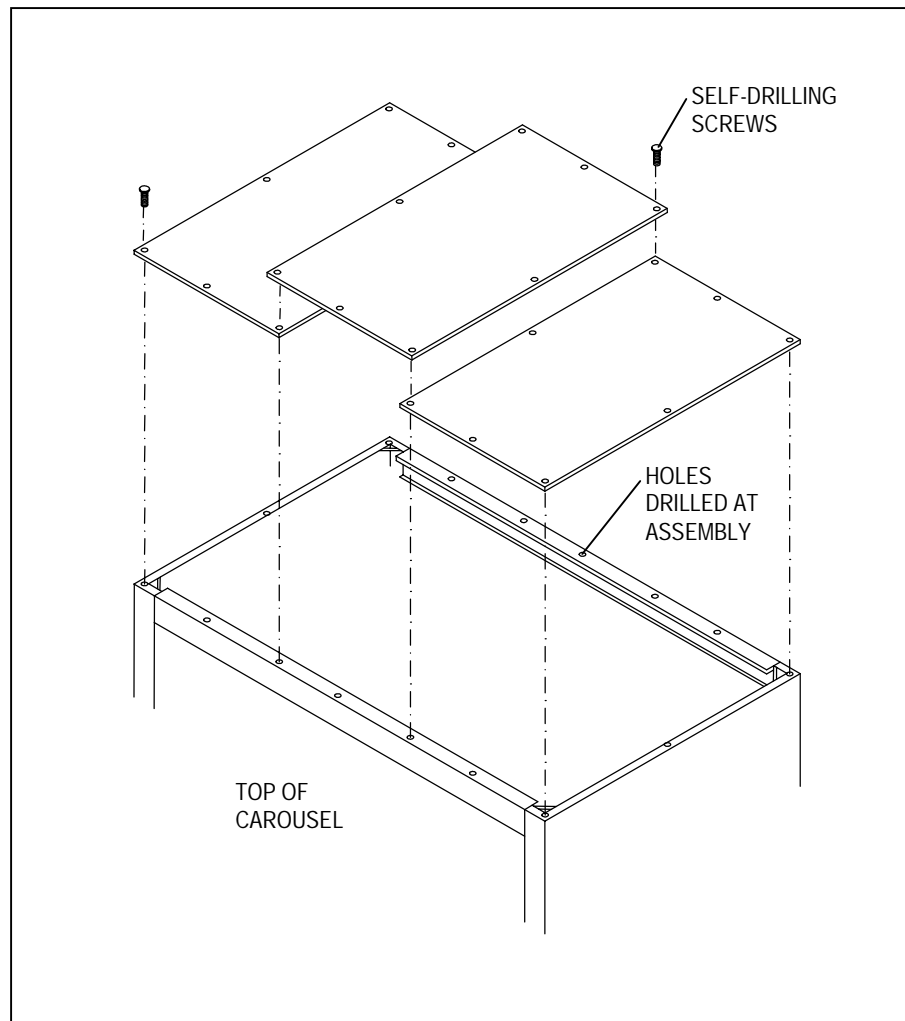

Figure 33. DUST COVER INSTALLATION
1. Orient the panels with reinforcing flanges down (see Figure 33).